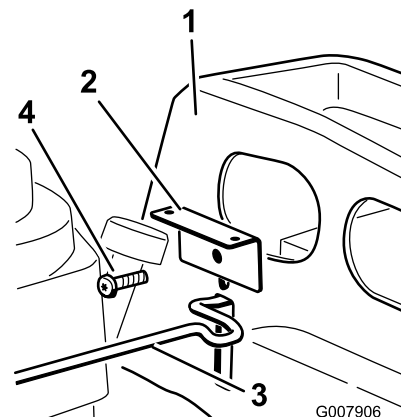

Figure 28
2. Remove the TORX® head fastener retaining the engine cover bracket to the left cover (Figure 28). Remove the bracket and allow the cover rod to be lowered.